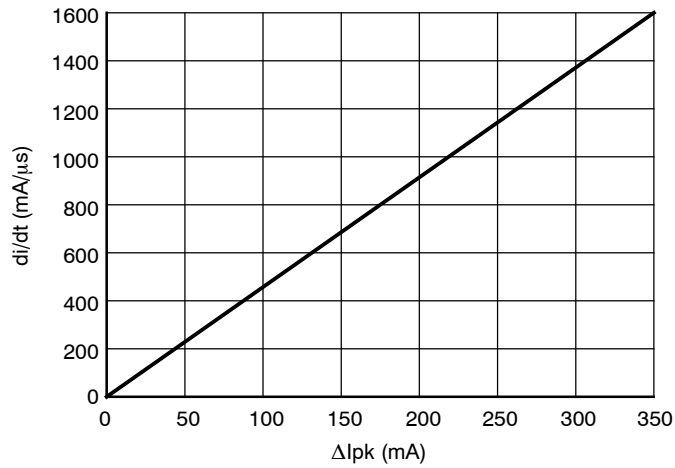

Figure 16. Power Switch Circuit di/dt vs. ΔIp
9. Actual peak switch current is increased due to the propagation delay time and the di/dt (see Figure 16).
The current limit propagation delay time is typically 220 ns. This time is measured from when an overcurrent appears at the Power Switch Circuit drain, to the beginning of turn-off. Care must be taken during transformer saturation so that the maximum device current limit rating is not exceeded. To determine the peak Power Switch Circuit current at turn off, the effect of the propagation delay must be taken into account. To do this, use the appropriate Current Limit Threshold value from the electrical tables, and then add the ΔI_{pk} based on the di/dt from Figure 16. The di/dt of the circuit can be calculated by the following formula: